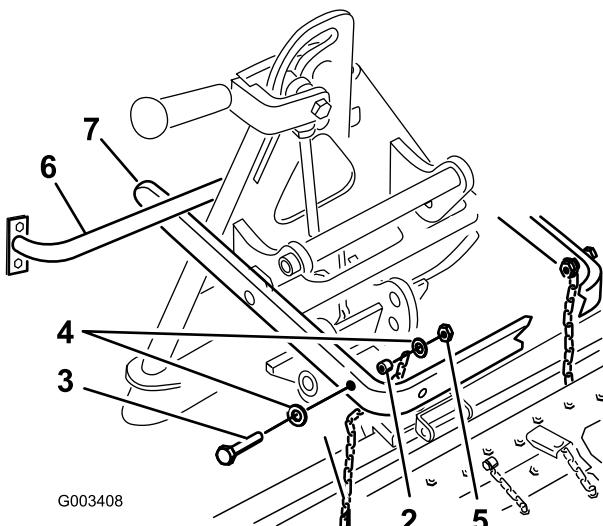

Figure 6
**Important:** The long arm of the lift arm assembly must be under the traction unit rear frame assembly (Figure 6).
5. Secure the top link of each chain to the inside of the lift arm using a bolt (3/8 x 2-1/2 inches), 2 washers (3/8 x 7/8 inch), a spacer, and a locknut (3/8 inch) (Figure 6).